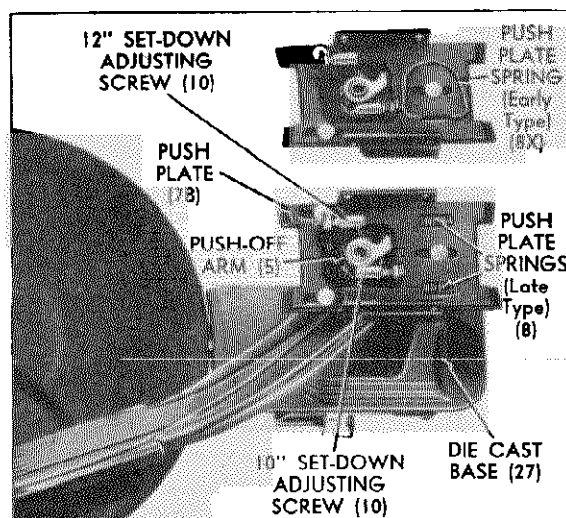

FIGURE 2. RECORD CHANGER, TOP VIEW SHOWING LOCATION OF PARTS
5. SET-DOWN POINT (See Figure 2).
8. RE-POSITIONING PUSH-OFF ARM (Figures 2 and 4).
(a) Push plate springs (8 or 8X) may not provide sufficient tension. There should be no "slop" in the head assembly (7) between cycles. If there is any play, replace the push plate springs. See figure 2.